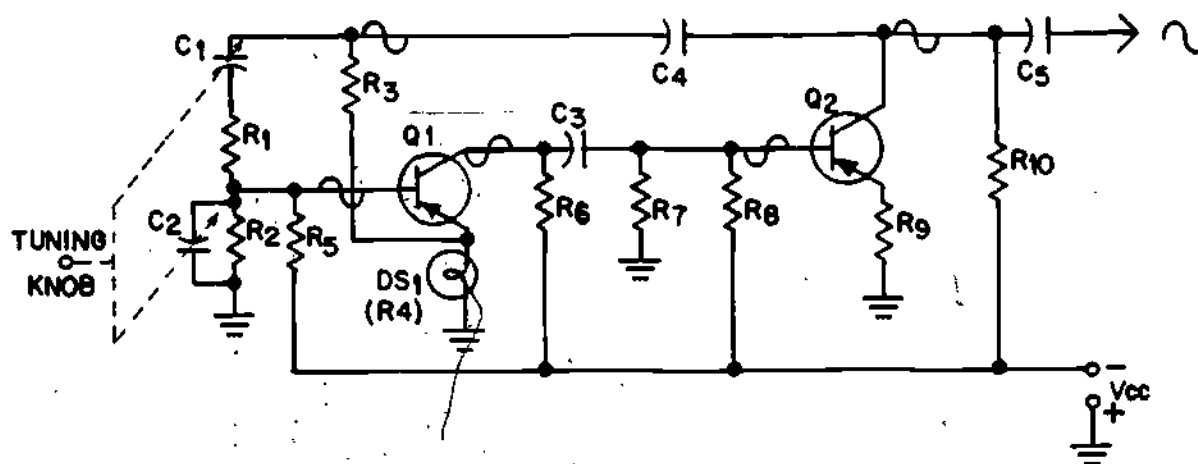

Figure 14
16. The schematic shown in Figure 14 is that of a variable frequency Wien-bridge oscillator. In this case capacitors C1 and C2 are ganged and varying their capacitance results in a variable output frequency.